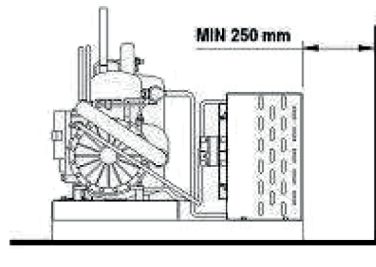

fig. 10
- The condenser must be at least 250 mm away from any wall (fig. 10).